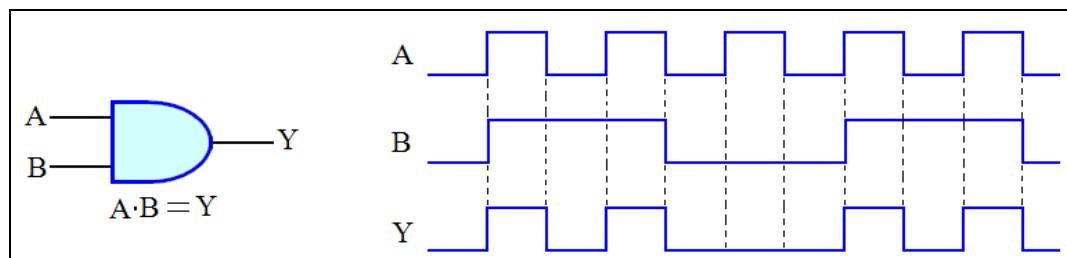

Fig. 3.2-3 Timing Diagram of 2-Inputs AND Gate
**EXAMPLE:** If the two waveforms are applied to the AND gate as in Fig. 3.2-3, what is the resulting output waveform?